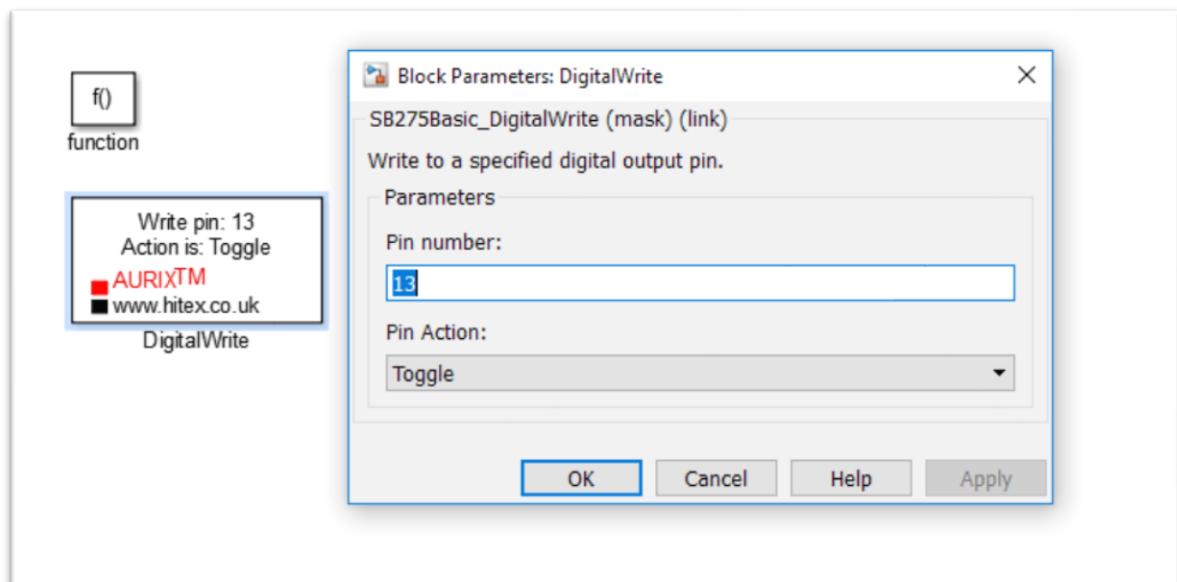

Figure 13 Configure DigitalWrite
8. Double click the block and set up the parameters as shown in Figure 13. Click OK to close the parameter editor.